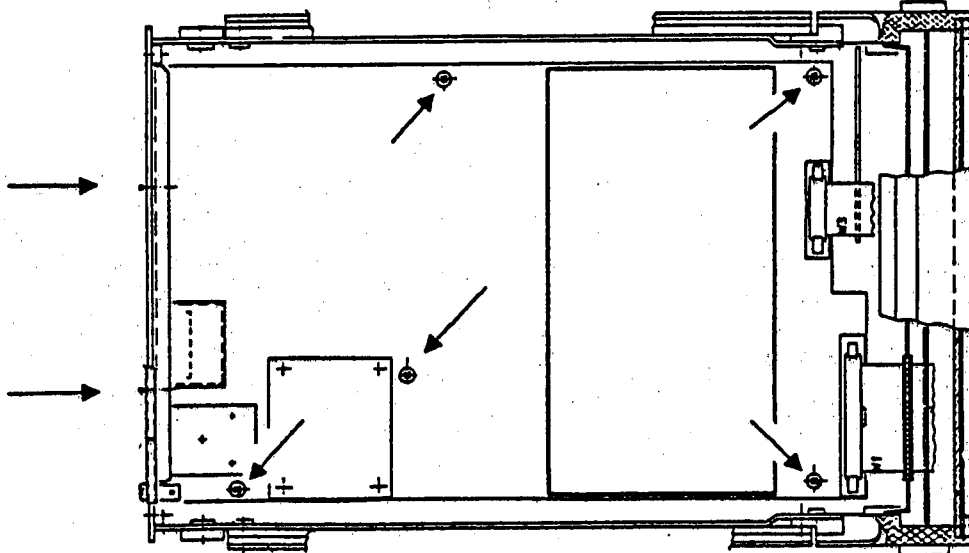

Fig. 7-12 Fastening points of the main board
- Remove the 7 Phillips screws (2 of them are on the rear panel) (→ Fig. 7-12).